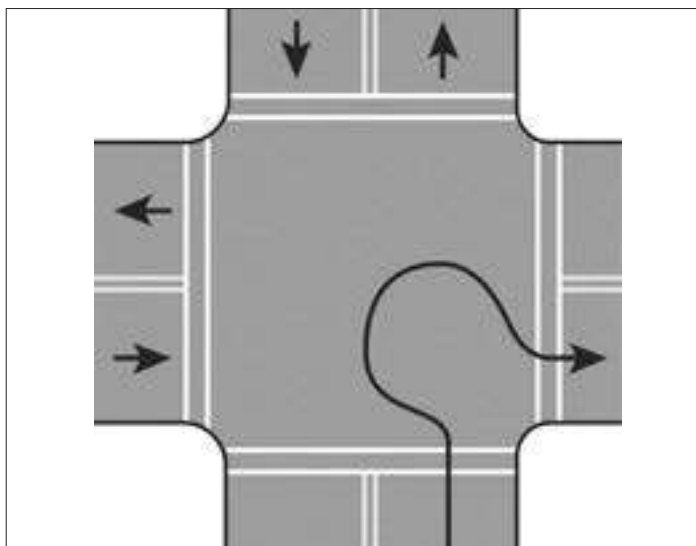

Figure 2.13
- If you must cross into the oncoming lane to make a turn, watch out for vehicles coming toward you. Give them room to go by or to stop. However, don't back up for them, because you might hit someone behind you. See Figure 2.13.